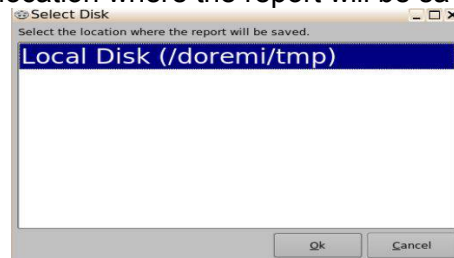

Figure 100: Location Confirmation
- The user must select the location where the report will be saved (Figure 100).